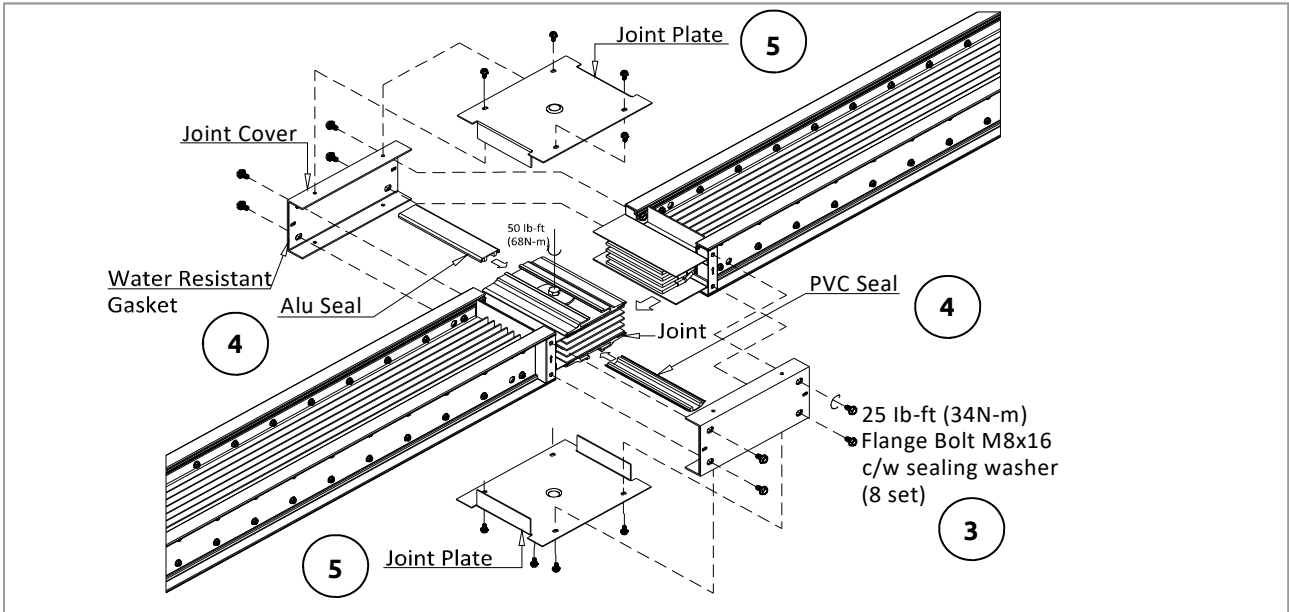

Figure 8.1 Assembly of outdoor busway joint. Correct way to assembly of joint shields is illustrated.
3. Joint two feeder together, and eventually attach joint cover on both sides of the joint with flange bolt and sealing washer as shown in Figure 8.1
4. Attach Alu seal and PVC seal on the top of joint as shown in Figure 8.1